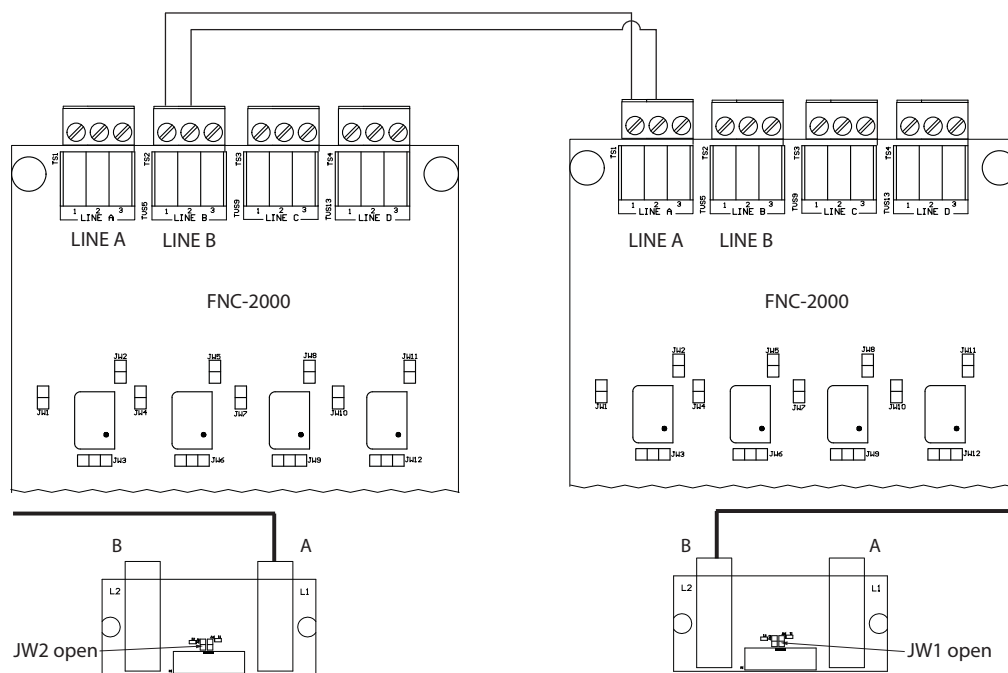

Figure 11 Mixed copper and fiber networks
- If this connection scheme is not followed, the network communication may become unstable. See Figure 11.